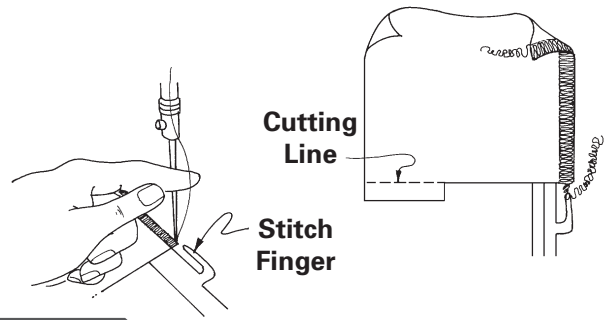

Fig. 21-12
3. Raise the presser foot, pull a slight amount of slack into the needle thread, and slide the stitches off the stitch finger. (Fig. 21-12) Pull the needle thread taut above the tension dials so you don't have any extra loops to distort the corner stitching.